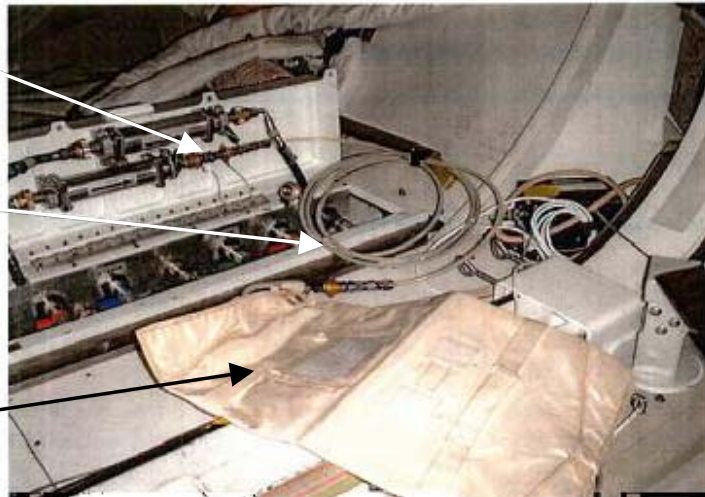

Figure 3.- EMU Waste Water Bag Attachment Configuration.
- 7.6 ✓ Configuration per Figure 3.